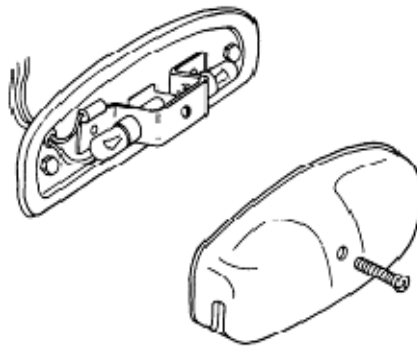

Figure 153 Number Plate Light Exploded View
- b. Remove the cover and the glass (Figure 153).